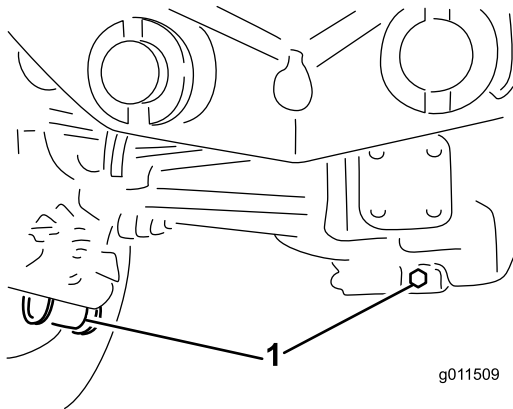

Figure 91
2. Clean the area around the 3 drain plugs; 1 on each end and 1 in the center (**Figure 91**).